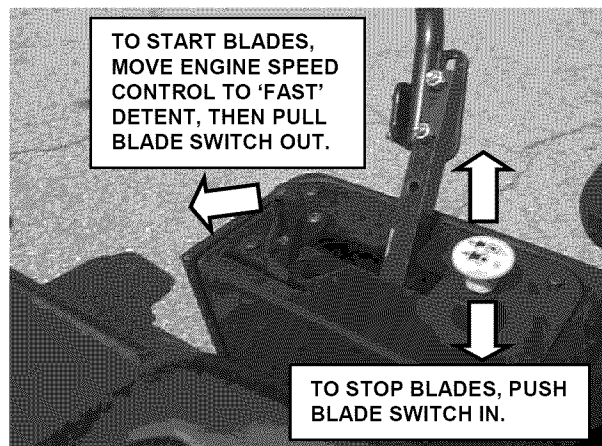

FIGURE 2.10
2. Pull Blade Switch out to its on ('1') position to engage mower blade. See Figure 2.10.
Push Blade Switch in to its off ('0') position to disengage mower blade(s). See Figure 2.10.